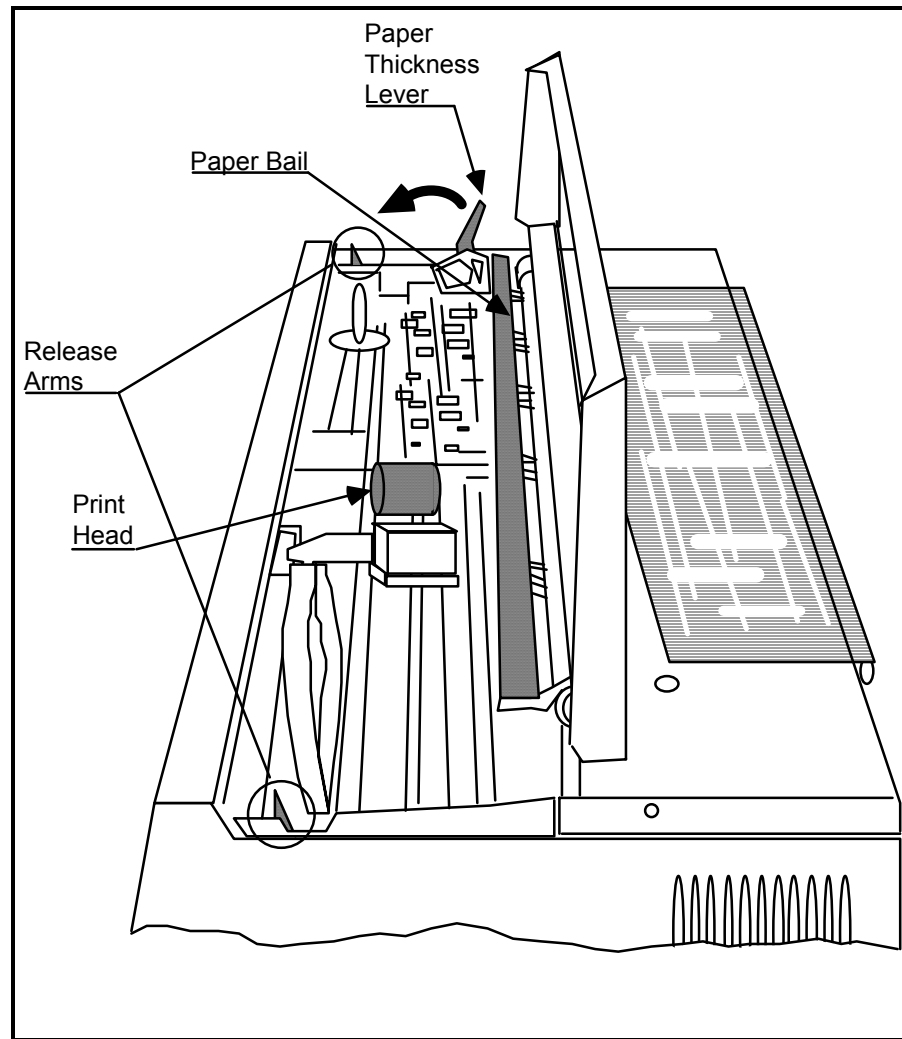

Figure 18-4 — Paper Bail, Print Head, and Paper Thickness Lever 1738
- Step 2. Using both hands, pull the paper bail towards the front of the printer, then lift it up (Figure 18-4).
- Step 3. Pull the left release arm toward the front of the printer (Figure 18-4), then lift the left side of the ribbon cartridge free. Now pull the right release arm toward the front of the printer and lift the right side of the ribbon cartridge free. Lift the ribbon cartridge out of the printer.
- Step 2. Using both hands, pull the paper bail (Figure 18-4) towards the front of the printer, then lift it up.
- Step 3. Move the print head to the center of the printer (Figure 18-4).
- Step 4. Pull the paper thickness lever towards the front of the printer to make ribbon insertion easier (Figure 18-4).
- Step 8. Place the ribbon cartridge inside, so it rests between the release arms of the retaining clips (Figure 18-4).
- Step 12. Using two hands, lift the paper bail towards the front of the printer, lower it, then release it gently. This action repositions the paper bail (Figure 18-4).
- Step 14. Move the paper thickness lever (Figure 18-4) towards the back of the printer. Align the lever with the last mark on the cover.